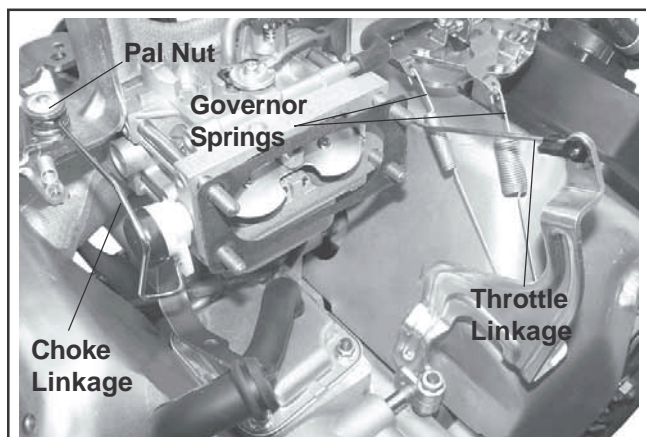

Figure 8-11. Disconnect Control Linkages and Governor Springs.
1. Unhook the governed idle and governor springs from the controls on the main bracket and governor lever. Note the color, location and position of each. See Figure 8-11.
2. Disconnect the throttle linkage and dampening spring from the governor lever at the small bushing. See Figure 8-11.
3. Carefully pry off the pal nut, remove the two washers (note assembly order), and disconnect the choke linkage from the pivot lever. Do not lose any parts. Secure remaining pivot parts with tape to avoid losing them. Always use a new pal nut during reassembly. See Figure 8-11.